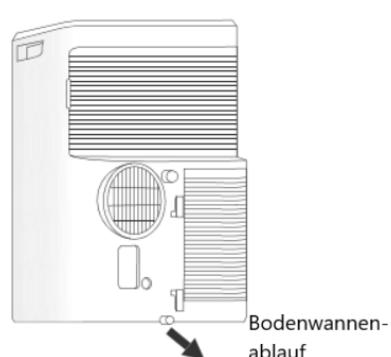

Fig. 2 Water drain
- First install the appliance connection adapter and the window panel adapter on the exhaust air hose (Fig. 2).